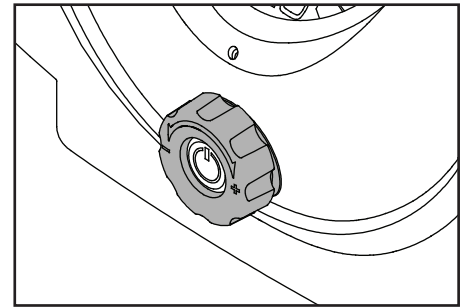

Figure 5 - Pressure Selector Dial
4. Turn pressure selector dial until the desired pressure field reads "LO" (LO setting is just below 20 psi setting). See Figure 5.
4. Turn the pressure selector dial until desired pressure is reached (see Figure 5).